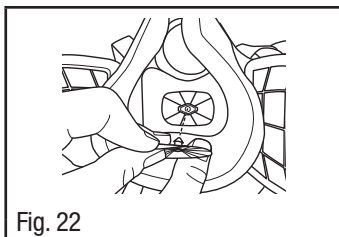

Fig. 22
2. Replace valve by aligning the valve stem with the hole in the center of the valve seat (Fig. 22).